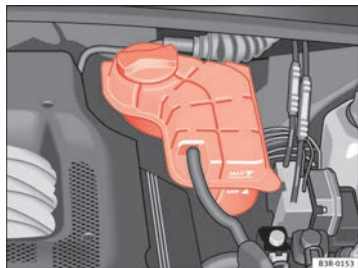

Fig. 168 Engine compartment: Coolant fluid deposit
- Check the coolant level on coolant fluid expansion tank ⇒ fig. 168. When the engine is cold, it should be between the “min” and “max” marks. When the engine is hot, it may be slightly above the “max” mark.
- Cover the cap on the expansion tank ⇒ fig. 168 with a cloth, and **carefully** unscrew the cap anti-clockwise ⇒ ⚠.